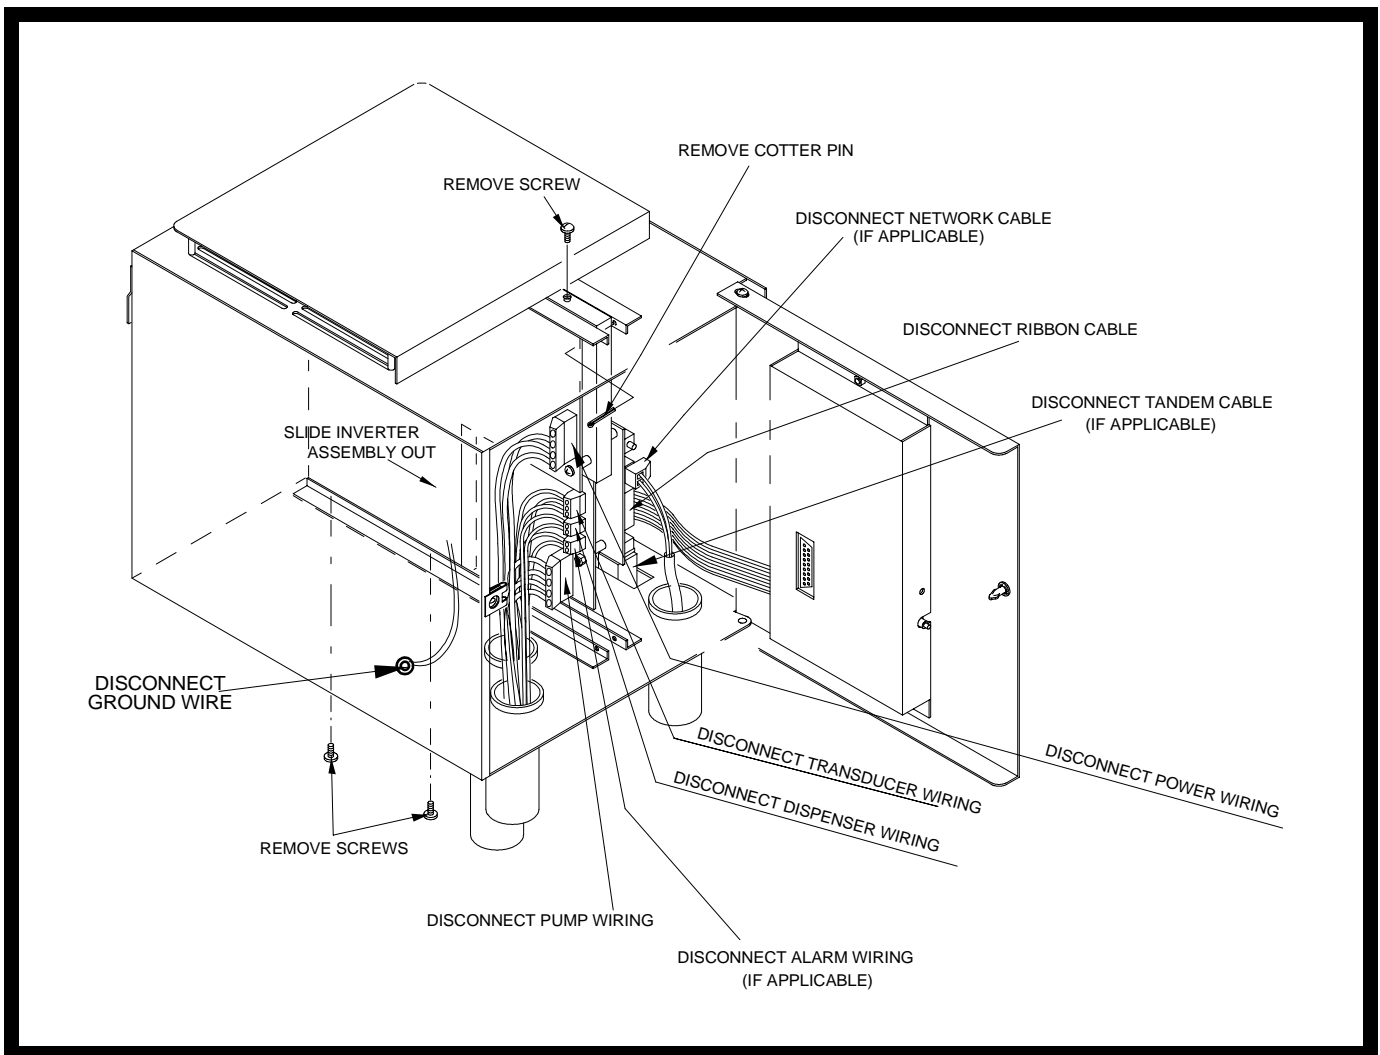

Figure 1 Disconnecting and removing the inverter assembly
- 2 *Record the location of each wire before disconnecting.* Incorrect wiring can cause catastrophic failure of the inverter board. Disconnect the AC input lines. Disconnect dispenser, transducer, pump, and alarm wiring (if applicable). See *figure 1*.
- 3 Disconnect the inverter plate ground wire from the chassis ground lug. Refer to *figure 1*.
- 4 Disconnect the ribbon cables from connector J5. (Refer to *figure 1*) Disconnect the network cable from connector J3 (if applicable).
- 5 Disconnect the tandem cable from the RS232 serial port (if applicable). (Refer to *figure 1*)